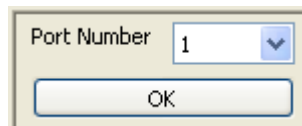

Figure 3. Comm Port Window
- 2 Select the **Comm Port** menu. The **Port Number** drop-down list is displayed as shown in Figure 3.